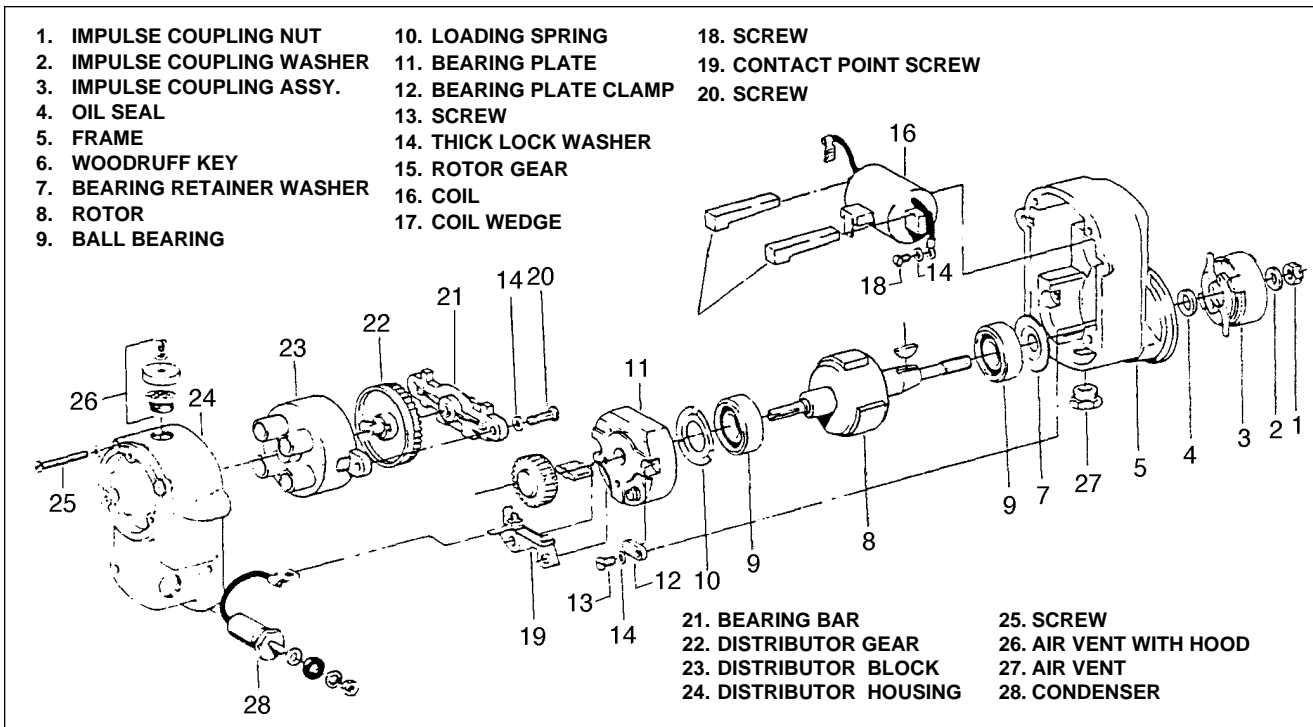

Figure 8-7. Exploded View of 4200/4300 Series Magneto
### **8-24. DISASSEMBLY OF SLICK 4200/4300 SERIES MAGNETOS. (Refer to Figure 8-7 and latest revision of Slick Service Bulletin No. SB2-88A.)**
- B. Insert the T-118 timing pin (refer to Figure 8-7) in L or R hole in the distributor block. Turn rotor opposite the rotation of magneto until the pin engages the gear and install magneto and gasket on the mounting pad of the accessory housing and remove the timing pin. Tighten the bolts finger tight.